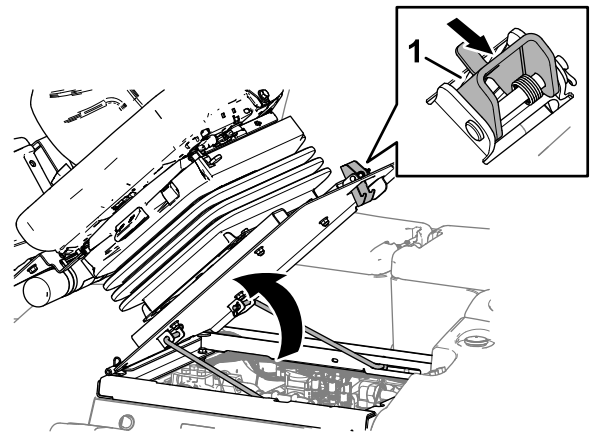

Figure 107
1. Move the seat latch outward (Figure 107).